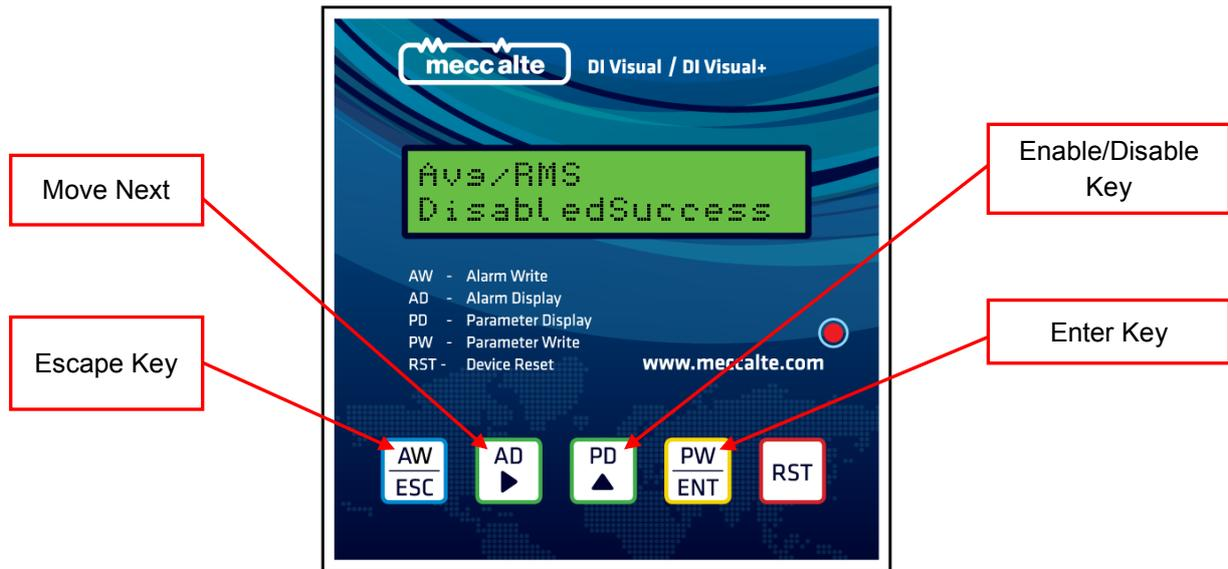

fig. 24
For changing the configuration Bits of DSR i.e. Volt, Stab, Hz, Amp Pots etc after Power On or Resetting DI-Visual+ device keep the  key as shown in Fig 24 below to prompt for the first configuration bit setting stored in DSR.
- 1) To change the configuration bit setting from Enable to Disable or vice versa press  key. Once you have set the desired setting for the selected configuration bit Press  key to update that setting to DSR. The DI-Visual+ will show “Success” message on the LCD for updated DSR POT of configuration bit setting as shown in Fig 24 below.
2) To move to next configuration bit press  key as shown in Fig. 24 below.